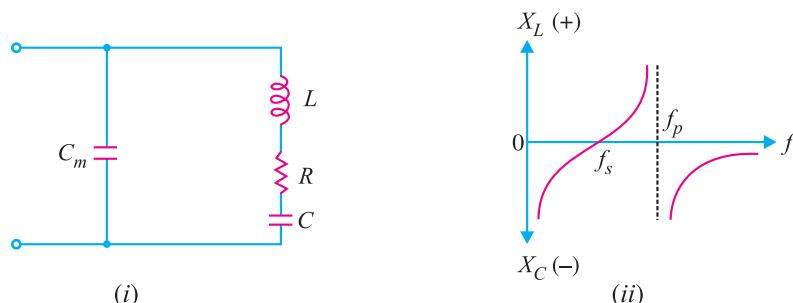

Fig. 14.22
When the crystal is vibrating, its equivalent electrical circuit is as shown in Fig. 14.22 (i). The capacitance values of C and C_m are relatively low (less than 1 pF for C and 4–40 pF for C_m). Note that the value of C is much lower than that of C_m .
- (i) At low frequencies, the impedance of the crystal is controlled by extremely high values of X_{Cm} and X_C . In other words, at low frequencies, the impedance of the network is high and capacitive as shown in Fig. 14.22 (ii).